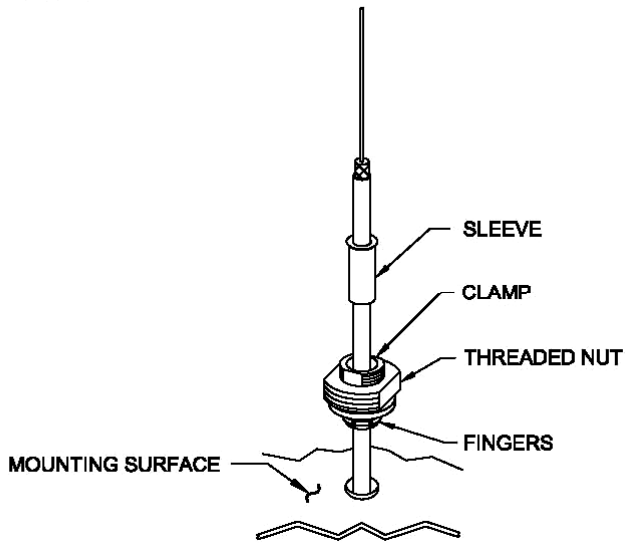

FIG. 3
- 8.) Hold 1/2" flats on the clamp and tighten the threaded nut using the 3/4" flats until securely fastened to the mounting surface. See figure 3.
- 9.) Slide sleeve onto cable and (small end first) and push into clamp until the flared end of the sleeve is flush with the top of the clamp. See figure 3.
- 11.) Slide the braid nut over the exposed center conductor and tighten onto the clamp to securely capture the braid wires. See figure 3.